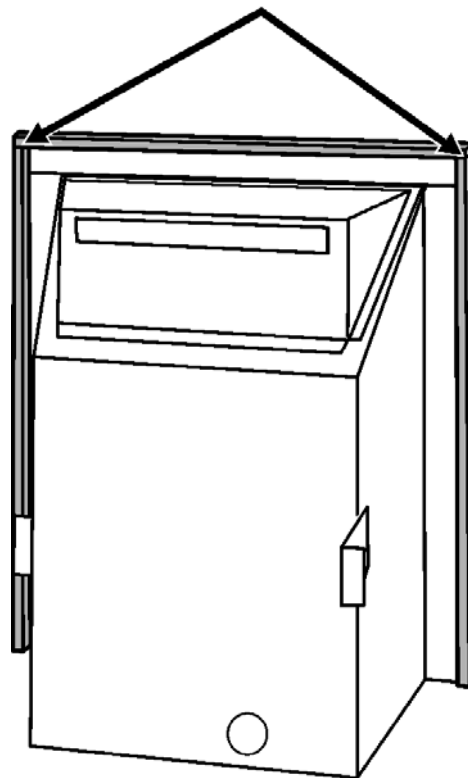

Figure 17. Fitting the foam seal
9. There is a length of self adhesive foam seal supplied with the fire. This will need to be fitted to the outer rear edges of the side and top flanges of the convector box. Cut a 485mm length of foam seal. Be careful not to stretch the seal when measuring. Remove the protective backing from the foam seal and fit this to the rear of the top flange (See figure 17). Cut two 580mm lengths. Fit these to the rear outer edges of the side flanges. Ensure that there is no gap between the foam seals where they meet at the top flange (See figure 17).